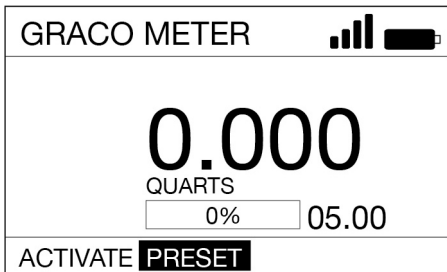

FIG. 32
3. Use the RIGHT ARROW to highlight PRESET (H) on the screen. Press The ENTER button to select PRESET(FIG. 32).
6. Pull the trigger to dispense fluid. (The display (E) shows the amount dispensed.)